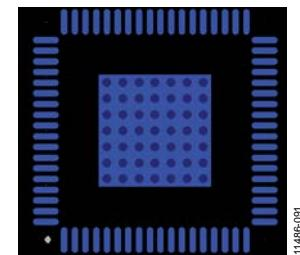

Figure 85. Exposed Pad Layout Example—Top View
- Place vias such that all layers of copper are connected, allowing for efficient heat and energy conductivity. For an example, see Figure 85, which shows 49 vias arranged in a 7 x 7 grid in the pad area.